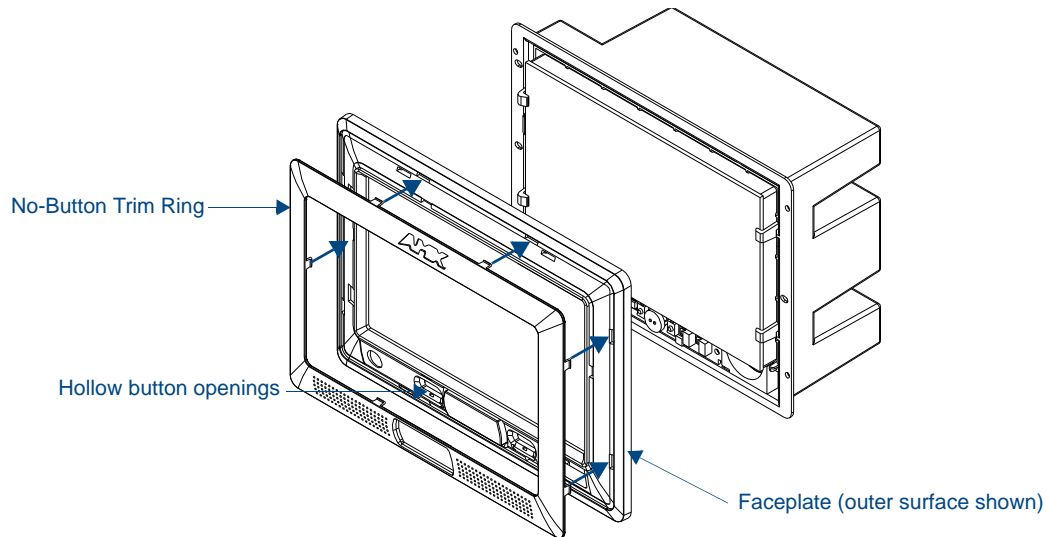

FIG. 8 Inserting the No-Button Trim Ring
8. Gently insert the Trim Ring latches into their corresponding openings on the outer surface of the internal Faceplate (FIG. 8).